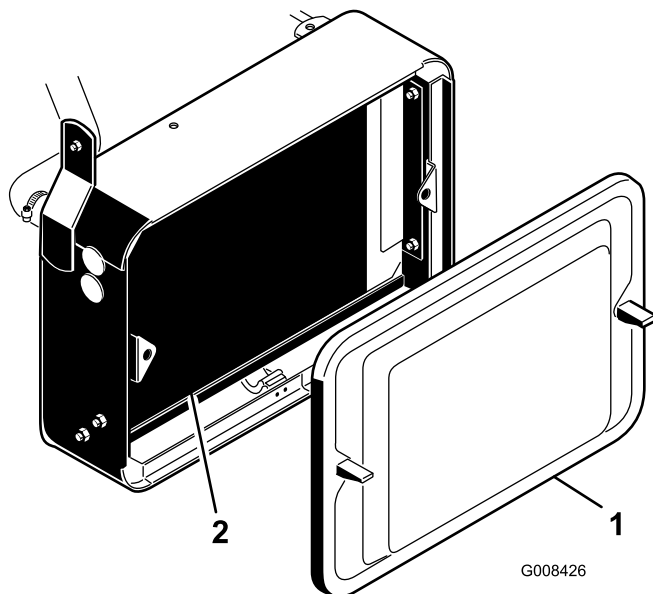

Figure 46
1. Remove the radiator screen (Figure 46).